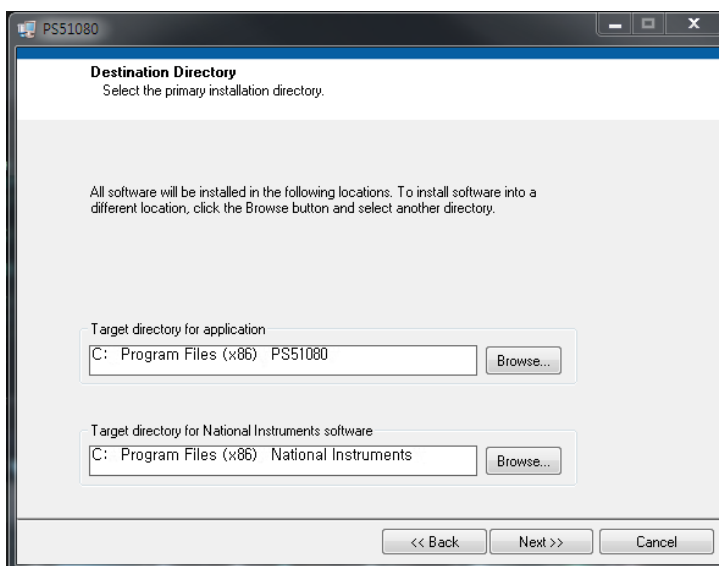

Figure 7-2: Navigate to the destination directory
3. Navigate to the destination directory in which you want to install the file, Figure 7-2.